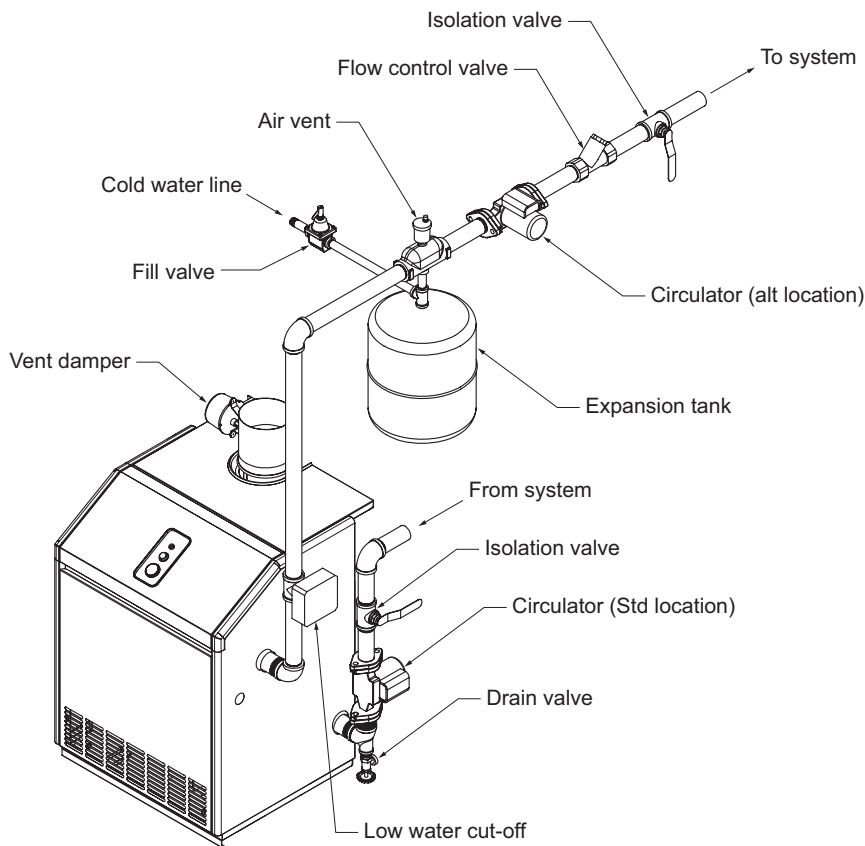

Figure 8.3 (Standard boiler piping)
Figure 8.3 shows typical boiler system connections on a single zone system. Additional information on hydronic system design may be found in the *I=B=R Guide RHH* published by the Air-Conditioning, Heating and Refrigeration Institute (AHRI). The components in this system and their purposes are as follows:
- 2) **Circulator** (Required) - The circulator is shipped loose with the boiler. Fittings are provided to mount it on the boiler return as shown in Figure 8.3, however it can be installed on the boiler supply. If the circulator is moved to the supply it should be positioned just downstream of the expansion tank as shown in Figure 8.3.